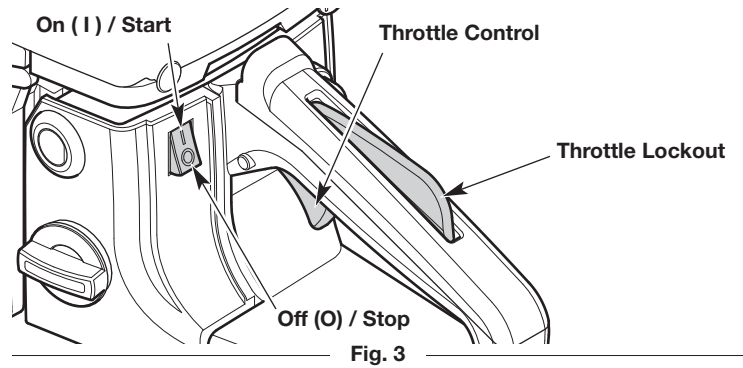

Fig. 3
5. Move the On/Off switch to the **On** position (Fig. 3).
**NOTE: DO NOT** touch the throttle control until step 14 (Fig. 3).
8. **DO NOT** touch the throttle control (Fig. 3). Set the unit on a flat, level surface. Clear the area of any objects that could contact the saw chain.
2. Move the On/Off switch to the **Off** position (Fig. 3). Wait for the saw chain to come to a complete stop.